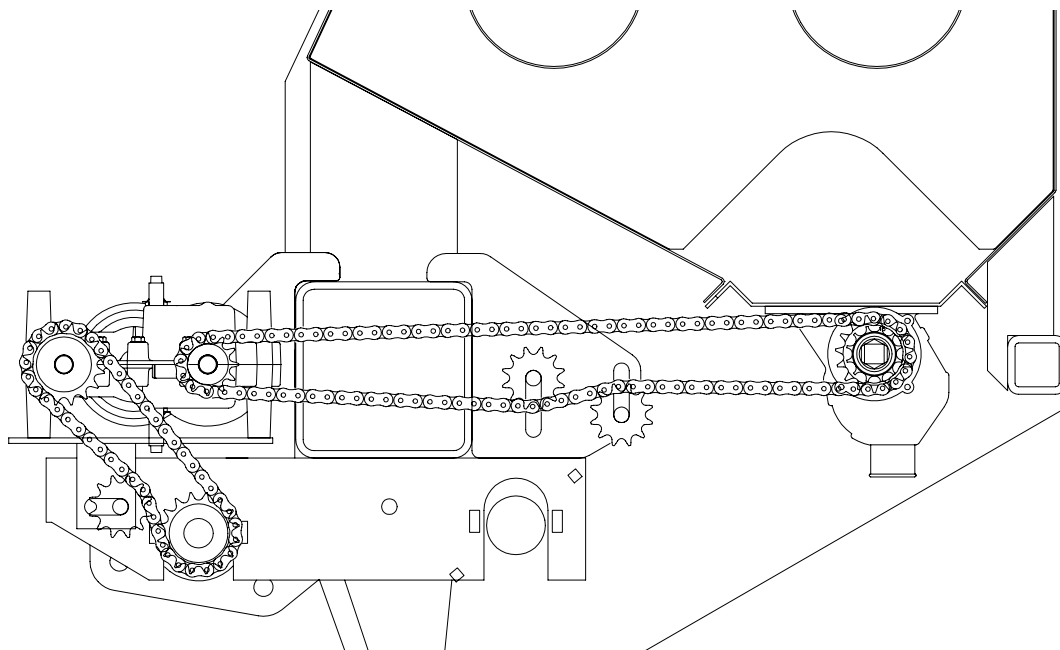

Figure 5
14. Route chain provided in kit over jackshaft drive sprocket and gearbox input sprocket (18). Use new idler (20) to remove chain slack. Refer to Figure 5 for chain routing.
15. Reroute chain removed in step 1 over gearbox output sprocket (19) and seed-cup sprocket. Refer to Figure 5 for chain routing.
21. Route chain around idlers and tighten to remove slack. Refer to Figure 5 on the previous page for chain routing.